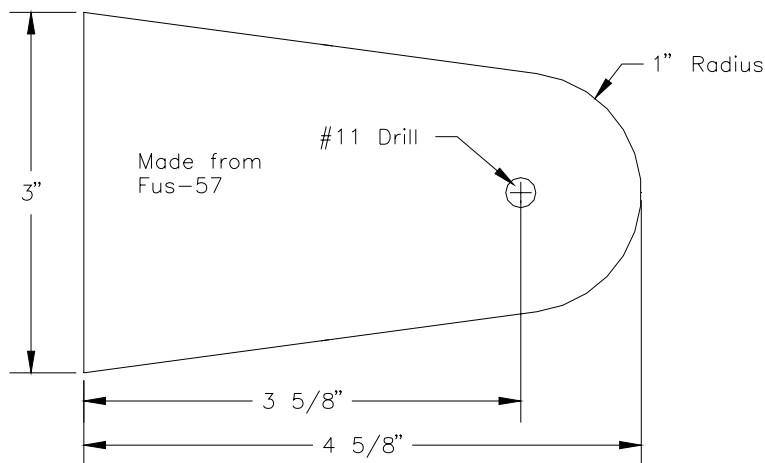

Figure 20.6.3
- 4) Cut out Torque Tube Hanger (CC-78) from .125 material (FUS-57). Figure 20.6.3.